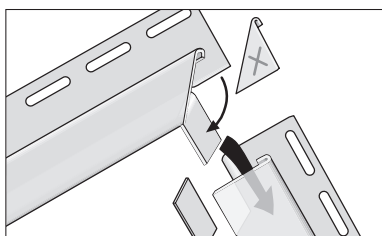

FIG 10.2
- Miter J-channels at corners to prevent gaps and allow for proper water drainage (FIG 10.2).